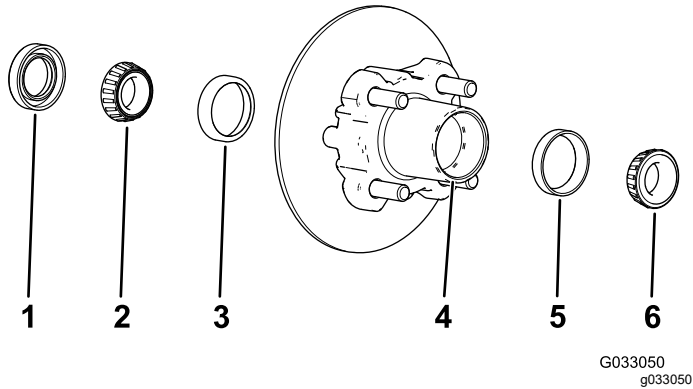

Figure 37
1. Remove the outboard bearing and bearing race from the hub (Figure 37).
2. Remove the seal, inboard bearing from the hub (Figure 37).
5. Clean the cavity of the hub of all grease, dirt, and debris (Figure 37).
7. Fill the cavity of hub 50 to 80% full of the specified grease (Figure 37).
8. Assemble the inboard bearing onto the race at the inboard side of the hub and install the seal (Figure 37).